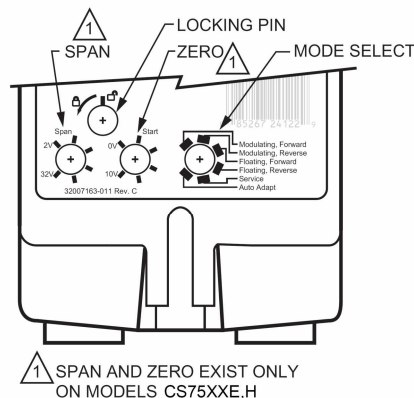

Fig. 3. Dials for control signal and zero/span.
NOTE: Selections are made using a dial that appears on both the front and back of the actuator (see Fig. 3). For available options, see Table 1.
These actuators have the capability of adjustable Zero and Span. Fig. 3 shows the dials. These dials are present only on the Enhanced Modulating models. A basic description of these dials follows:
2. Turn the Zero dial (see Fig. 3) past the desired start point.
5. Turn the Span dial (see Fig. 3) to the minimum setting (2 VDC).